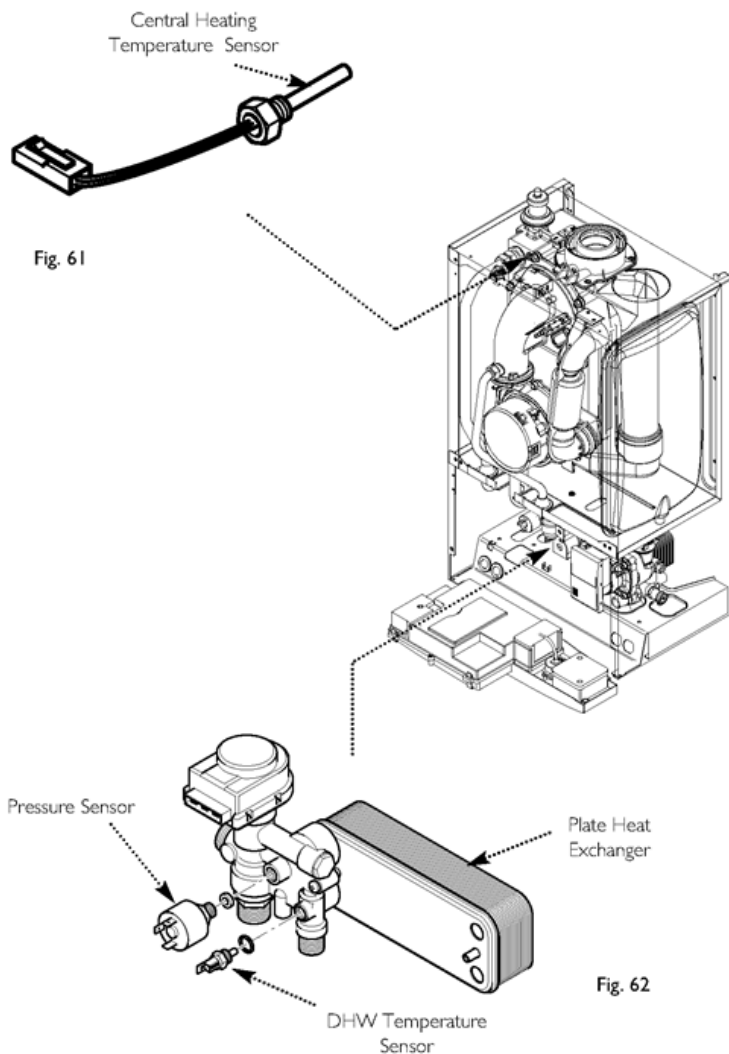

Fig. 61 & Fig. 62
13.8 Central Heating Temperature Sensor (NTC) (Fig. 61)